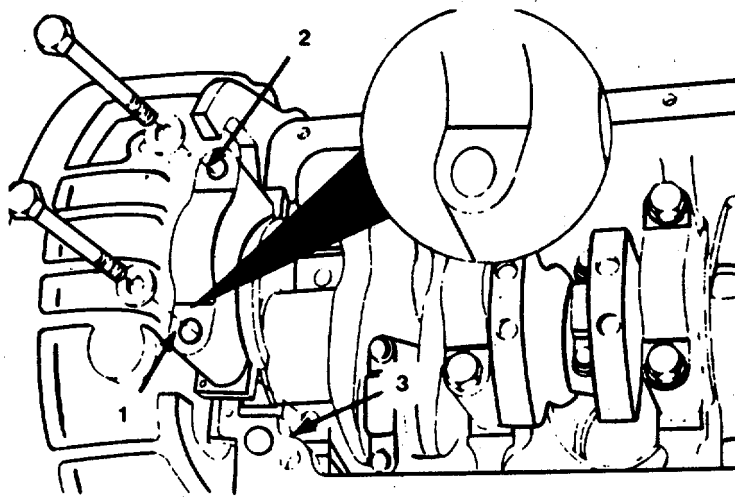

FIGURE 4-52. Bearing Cap Location Marks.
- (8) Install the lower thrust bearings in the No. 7 main bearing cap.
(9) Use clean engine oil to lubricate the capscrew threads and the flat washers.
(10) Drain the excess oil from the capscrews before installing them.
The main bearing caps are marked for position (1, FIGURE 4-52) on the camshaft side and the cylinder block identification (2) on the exhaust side. The cylinder block identification number (3) is stamped on the pan rail on the camshaft side of the block. Install the caps in the correct position with the position number to the camshaft side and its part number toward the rear of the engine.